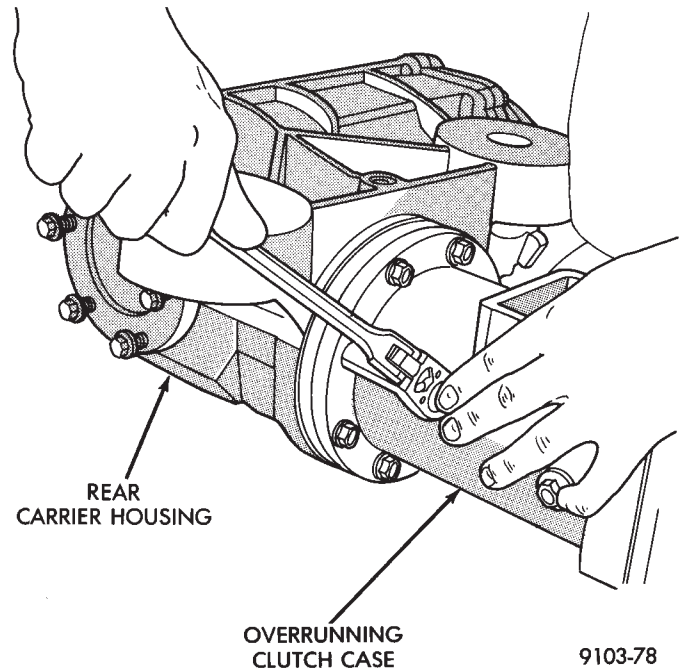

Fig. 3 Overrunning Clutch Housing to Rear carrier Bolts
- (1) Remove rear drive line module assembly from vehicle.
- (2) Remove viscous coupling.
- (3) Remove overrunning clutch cover assembly.
- (4) Drain fluid from overrunning clutch case.
- (5) Remove overrunning clutch case to rear carrier case bolts (Fig. 3).